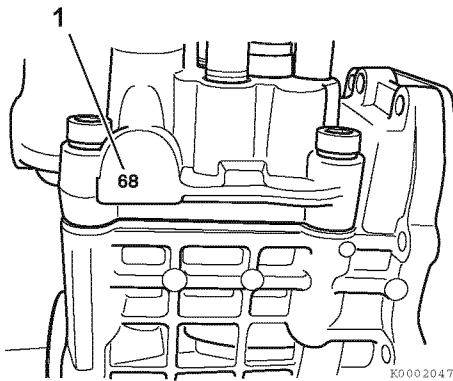

Figure 7-16
22. Remove the fuel injection pump (1, **Figure 7-15**). For purposes of future injection timing purposes, record the fuel injection pump timing index number located on the boss on the engine side (back) of the of the fuel injection pump (1, **Figure 7-16**).
If installing a new or recalibrated fuel injection pump, locate and record the timing index number located on the pump housing boss on the engine side of the new or recalibrated fuel injection pump (1, **Figure 7-16**). This number will be used to calculate and adjust the final fuel injection timing.